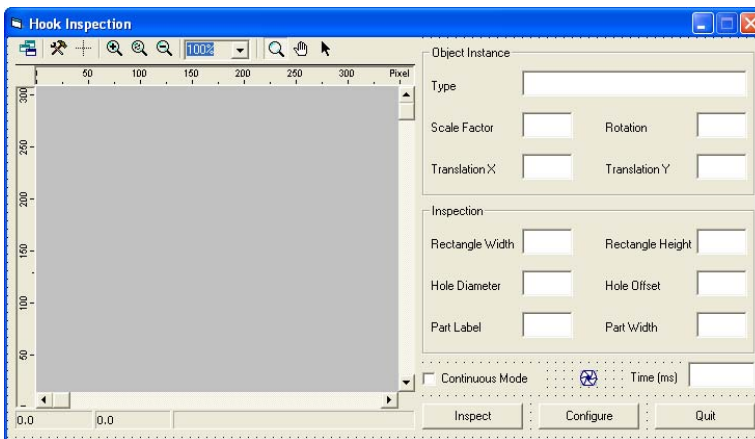

Figure 76 Visual C++ Dialog for Tutorial 6
1. On your application dialog, add one edit box. Name it **IDC_EDIT_PART_WIDTH**. Add a proper label for your edit box. Set everything to appear as illustrated in Figure 76.